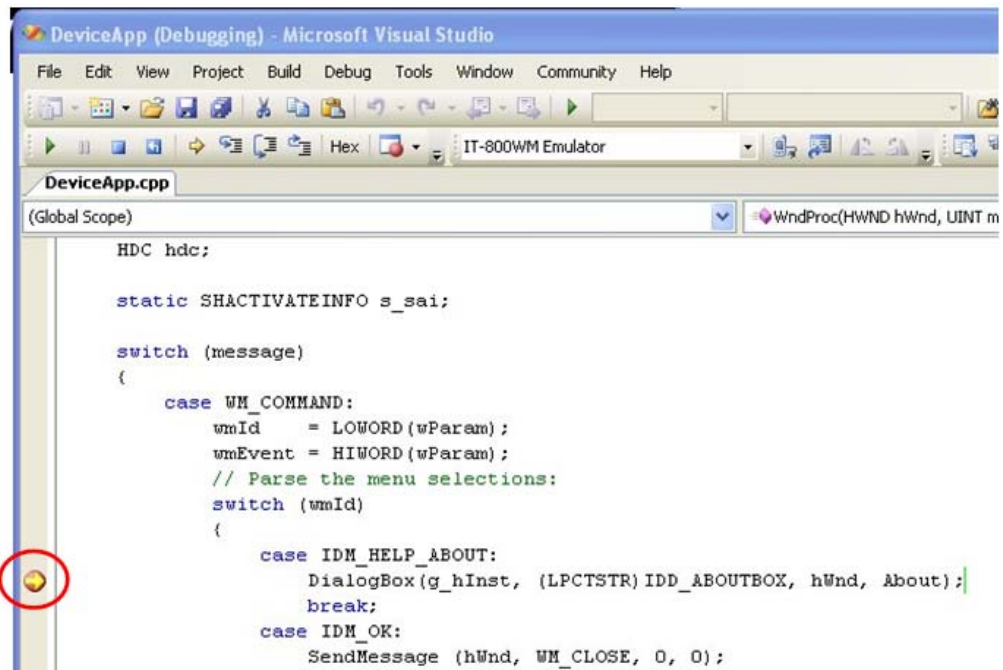

Figure 7.20
2. Similar to ordinary debugging operations with an actual IT-800, the **Device Emulator** allows break point setting (circled in red in Figure 7.20) in the source code and step-by-step debugging.